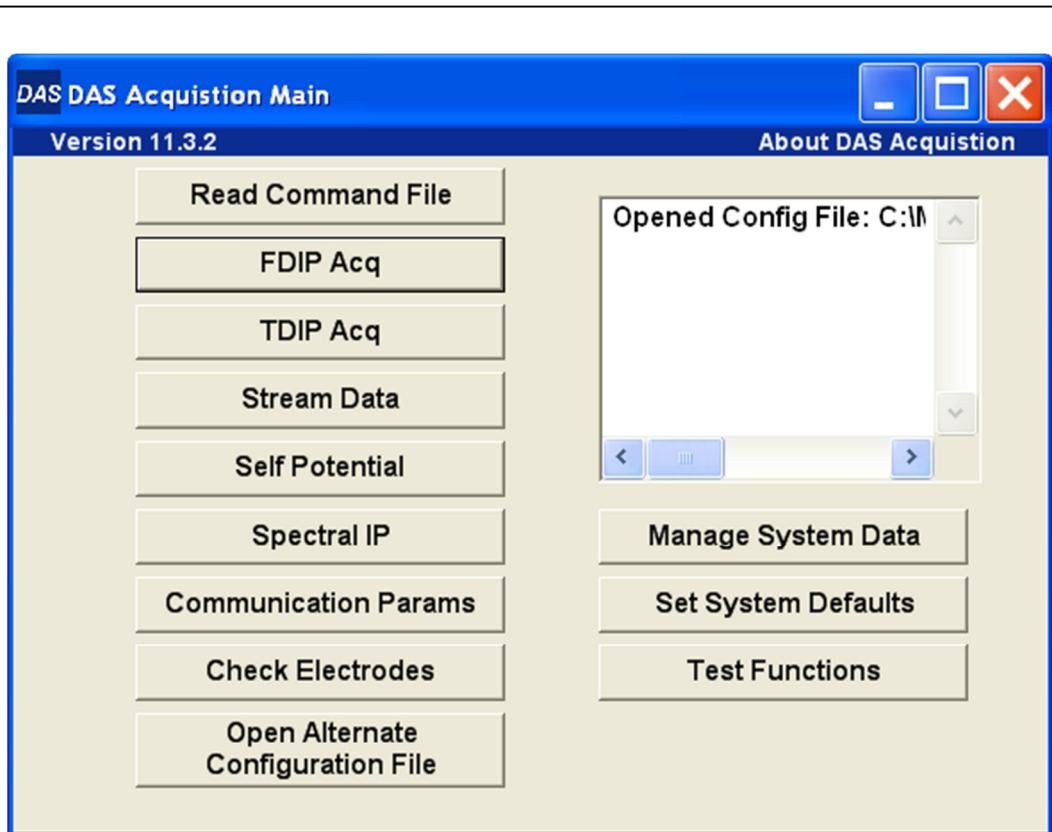

Figure 5. DAS Acquisition Main menu
- 2) In the \MPTERTF\System_Config\ directory, open DASAcquisition.exe. You will see the DAS Acquisition Main menu (Figure 5).